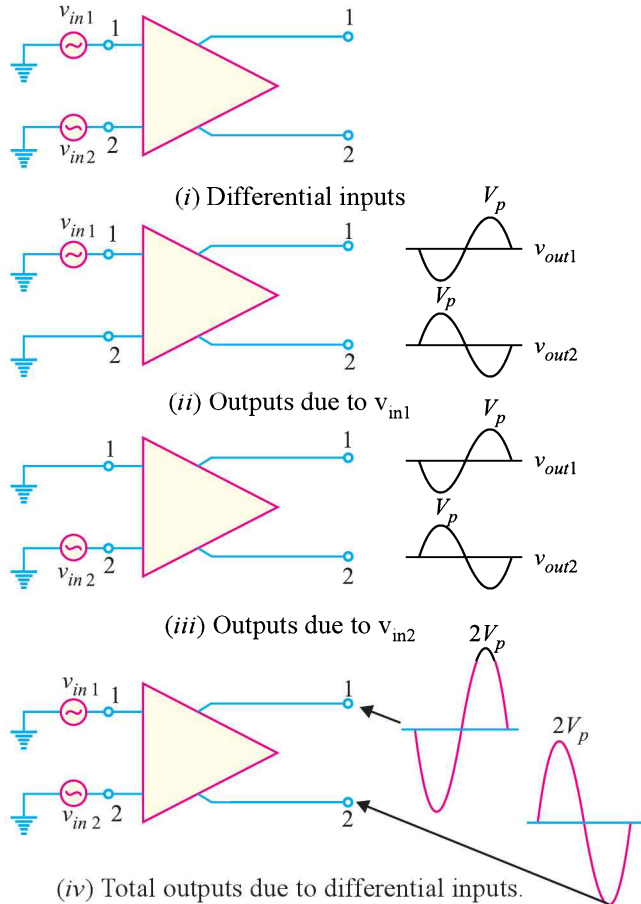

Fig. 25.10
(i) **Differential input.** In this mode (arrangement), two opposite-polarity (180° out of phase) signals are applied to the inputs of DA as shown in Fig. 25.10 (i).
As we shall see, each input affects the *outputs. Fig. 25.10 (ii) shows the output signals due to the signal on input 1 acting alone as a single-ended input. Fig. 25.10 (iii) shows the output signals due to the signal on **input 2 acting alone as a single-ended input. Note that in Figs. 25.10 (ii) and (iii), the signals on output 1 are of the same polarity. The same is also true for output 2. By superimposing both output 1 signals and both output 2 signals, we get the total outputs due to differential inputs [See Fig. 25.10(iv)].
* Note that in all the Figures in Fig. 25.10, the phase of the input signal is given in the circle and the phase shift in the output signal is given at the output terminals. Thus in Fig. 25.10 (ii), the output signal at terminal 1 is 180° out of phase with the input signal. On the other hand, the output signal at terminal 2 is in phase with the input signal.
** Note that a *DA* amplifies $(v_1 - v_2)$. For Fig. 25.10 (ii), $v_{in1} - v_{in2} = v_{in1} - 0 = v_{in1}$. For Fig. 25.10 (iii), $v_{in1} - v_{in2} = 0 - v_{in2} = -v_{in2}$.